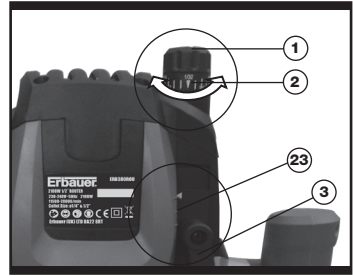

Fig 4
position with fine-adjustment knob (1); Turn the fine-adjustment knob until the markings (23) are in alignment as (shown in Fig 4). Afterwards turn scale (2) to "0" (See Fig 4). Set step buffer (9) to the lowest position, the buffer snaps-in noticeably.